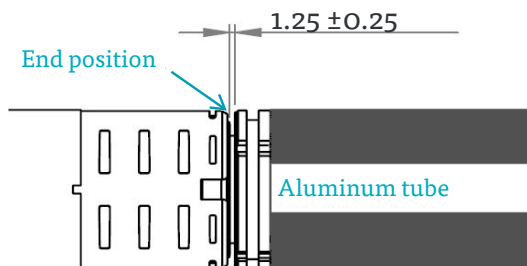

Fig. 6: Adjusting the steel spindle
2. Loosen the aluminium tube to reach the target position. This should be 1.25 mm before the end position (see Fig. 6: Adjusting the steel spindle).